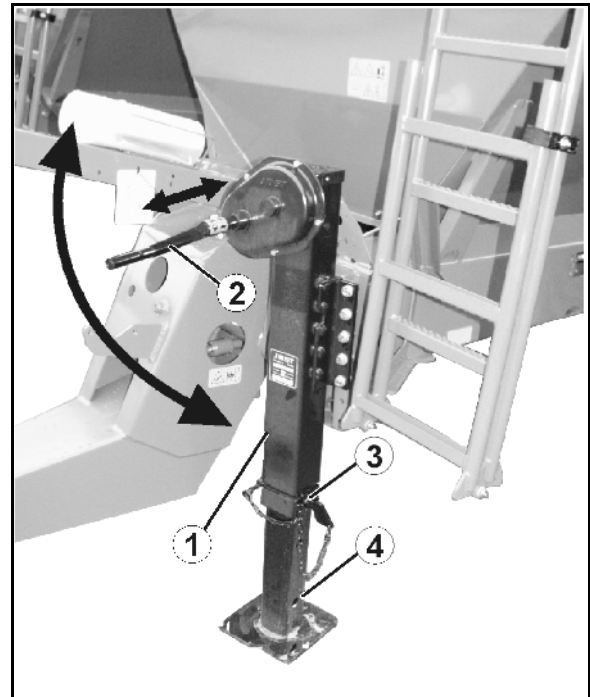

Fig. 57
1. Wind up the stand (Fig. 57/1) to the limit stop using the hand crank (Fig. 57/2).
2. Pull the pins (Fig. 57/3) out of the stand.
4. Insert the pins in the lower hole (Fig. 57/4) and secure them.
1. Hold the inside of the stand steady and pull the pins (Fig. 57/3) out of the stand.
4. Wind down the stand (Fig. 57/1) to the limit stop using the hand crank (Fig. 57/2) until the load is relieved from the yoke bar.